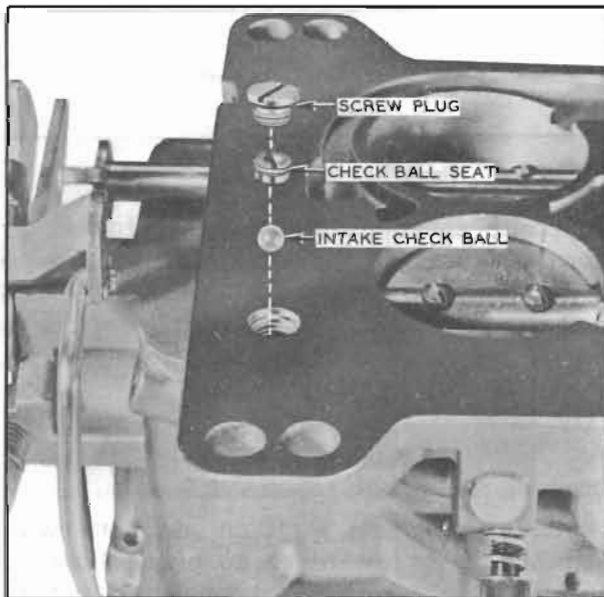

Figure 3-50—Pump Intake Check Parts
14. Invert main body and remove pump intake screw plug, check ball seat, and check ball. See figure 3-50. Unless passages in main body appear to be clogged with carbon or gum to such an extent that penetration of cleaning solution is doubtful, it is seldom necessary to remove passage plugs.